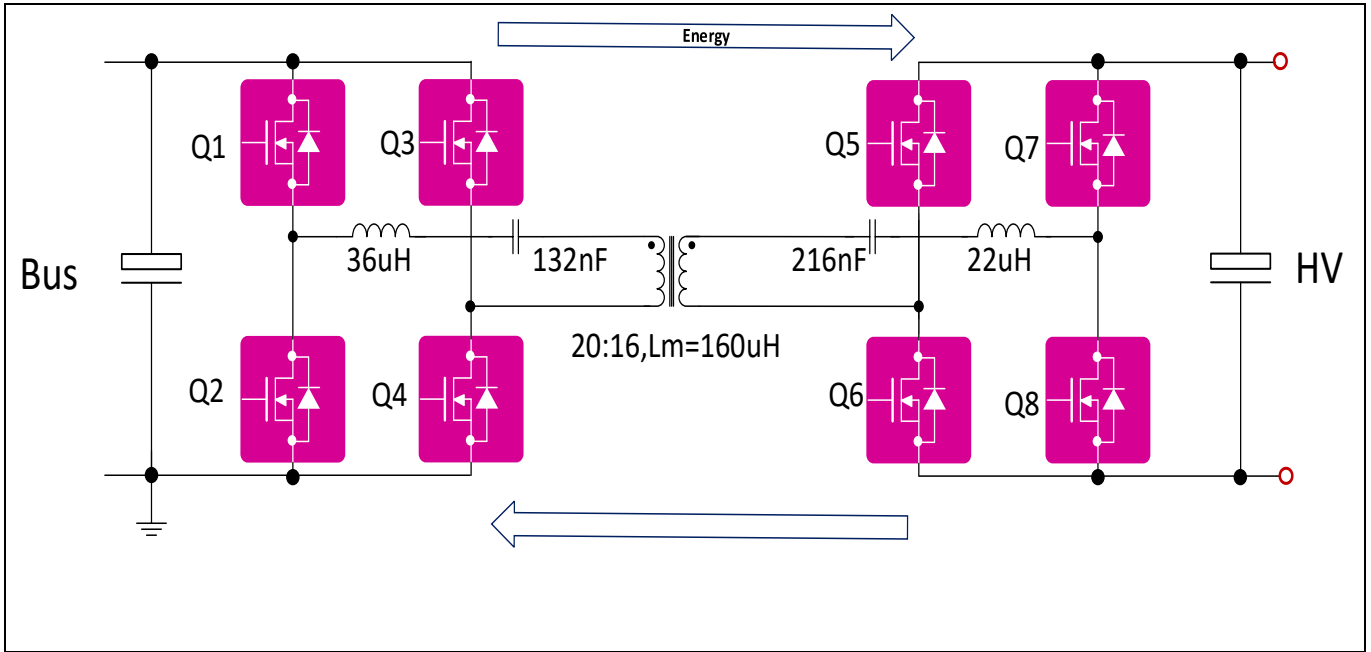

Figure 4 Buck mode recommended validation set-up
- HV electronic load (500 V to 800 V), in constant current mode, capable of at least 11 kW (when testing up to full load). Nominal input voltage of the converter is 750 V. The converter works as indicated in Figure 4.
The output gain function of CLLC topology is generally analyzed by the fundamental wave-analysis method. Based on this analysis method, the parameters of the key resonant components in the current design are shown in the Figure 4:
VHB is the  $V_{ds}$  voltage of Q2 (The position of SiC MOSFETs Q1~Q8 can be seen in Figure 4.).